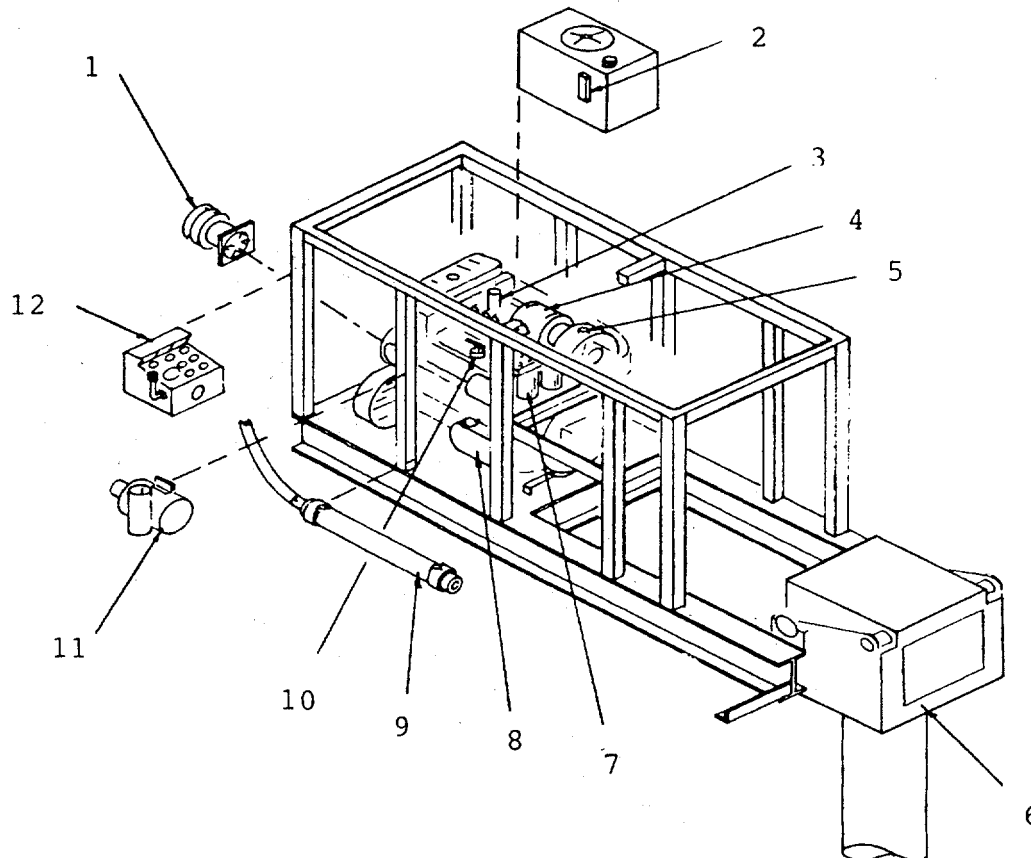

Figure 1-2. Propelling Unit, Port Side View.
(4) Alternator. The alternator (4) is belt driven from the front pulley and provides the voltage necessary to recharge the 12V dc starting battery.
(5) Starter. The starter (5) is used to start the diesel engine.
b. Propelling Unit (Port Side). (Figure 1-2).